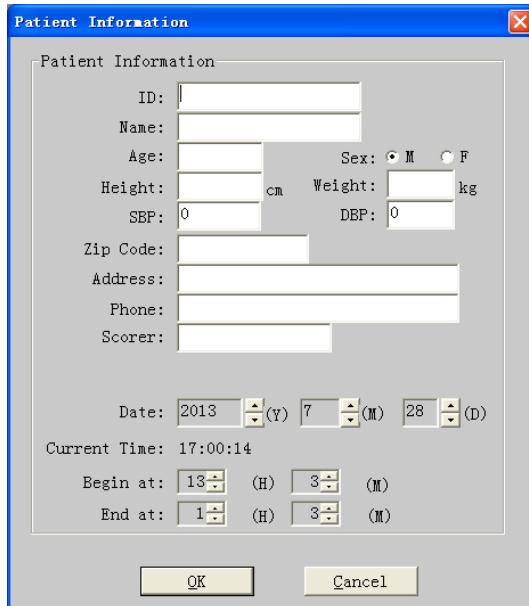

Figure 2-4 "Patient Information" dialog box
- ⑤ After selection, click the “OK” button, and “Patient Information” dialog box pops up (Figure 2-4).